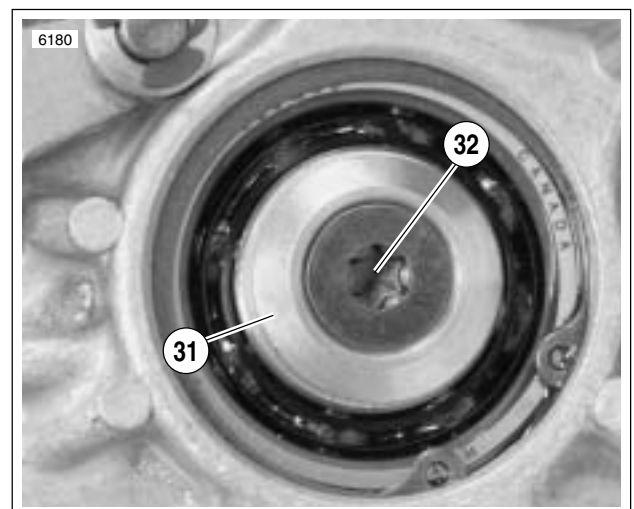

Figure 6-50.
19. See Figure 6-50. At outside of access door, position retention collar (31) next to end of countershaft with beveled side facing outward. Apply a few drops of LOCTITE THREADLOCKER 243 (blue) to the threads of TORX screw (32). Insert TORX screw (32) through retention collar and thread into end of shaft. Place transmission in gear and tighten TORX screw to 13-17 ft-lbs (18-23 Nm).